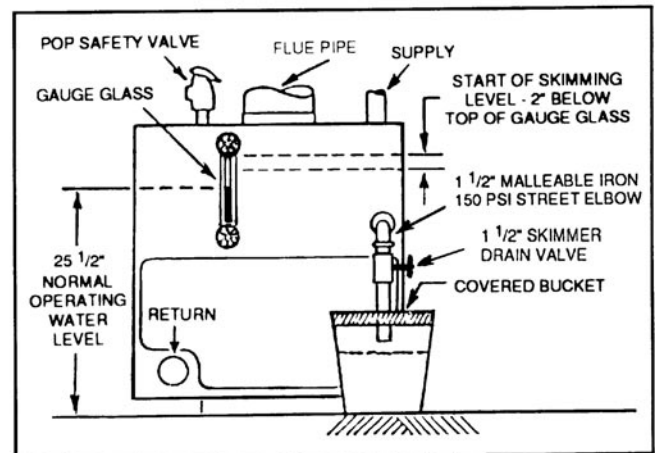

Figure 9.
- Turn off electrical power supply to boiler. Allow boiler to cool down and steam pressure to reduce to zero before removing skimmer tapping plug. Check for steam pressure by testing the pop safety valve. Drain boiler down one to two inches below skimmer tapping. The water might be hot. Remove skimmer plug slowly and carefully install a 150 psi malleable iron 1-1/2" NPT street elbow, a 1-1/2" NPT skimmer valve and length of pipe and place a bucket underneath the open end of the pipe. Cover bucket with a piece of cloth. (See figure 9)
- Repeat (D) above until all film is skimmed off and the water settles to a normal movement. Add make up fresh water to the boiler as described in (D) above, during the blow-off operation, to maintain the proper skimming water level in the vessel. Empty bucket frequently in order to see the difference in water cleanliness.
- When surging has stopped and water is clean, and no film can be seen floating in the bucket, shut off boiler, drain down to level of skimmer tapping, remove valve, plug skimmer tapping and refill the boiler to 24-1/2" water level. After 15 minute operation, readjust level to normal operating level of 25-1/2" from bottom of boiler (see figure 9). Check the pop safety valve for proper operation. Check the low water cut-off operation, see below.